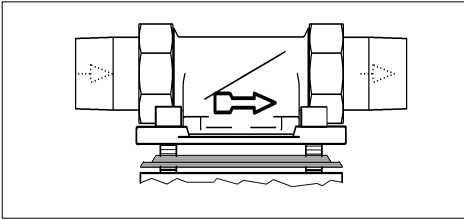

Fig. 4: Built-in rotary flange
**The built-in rotary flange must be installed in flow direction which is marked by a cast in arrow (see fig. 4).**